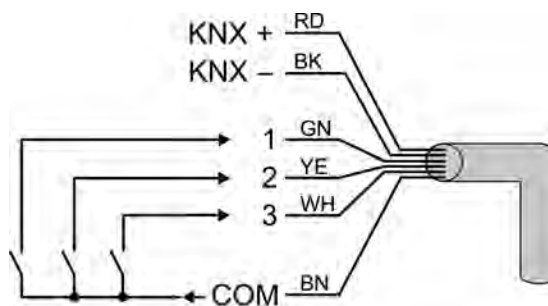

Figure 5: Connection of the extension inputs
- If necessary, connect potential-free contacts to the inputs (figure 5).